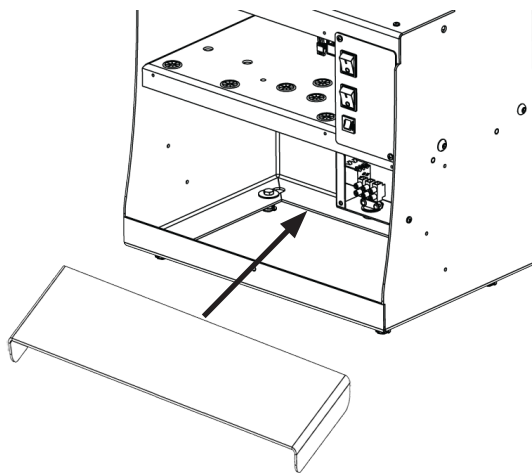

Figure 43. Install Extended Battery Tray
6. Install the extended battery tray at the back of the conduit cut out. (Figure 43)